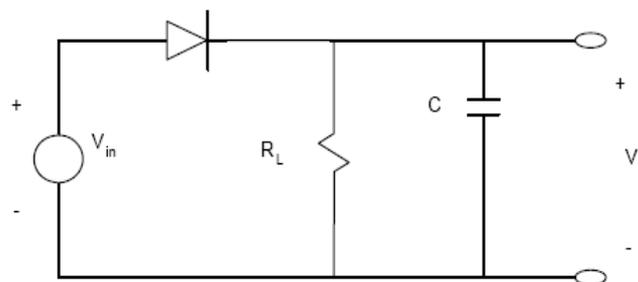
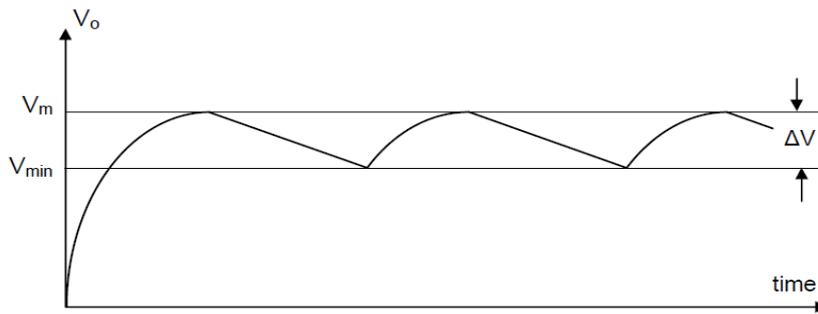

Figure 3: Rectifier circuit with an RC smoothing filter.
Figure 4: Output wave shape from a full-wave filtered rectifier.
The rectifier circuits discussed above provide a pulsating dc voltage at the output. These pulsations are known as "ripple". The uses for this kind of output are limited to charging batteries, running dc motors, and a few other applications where a constant dc voltage is not necessary. For most electronic circuits, however, a constant dc voltage similar to that from a battery is required. To convert a half-wave or full-wave rectified voltage with ripple into a more constant dc voltage, a smoothing filter must be used at the rectifier's output. A popular smoothing filter is the capacitor-resistor filter, which consists of a single capacitor in parallel with the load resistor. Figure 3 shows such a filter connected to the output of a half-wave rectifier. The output wave shape of the filtered half-wave rectifier is similar to that shown in Figure 4, assuming that the time constant of the $R_L C$ filter is comparable to the period of the input voltage.
Notice that the output wave shape still has ripple, but the ripple is now saw-tooth or triangular shaped, and its variation is much less than that of the unfiltered pulses. The difference between the maximum and minimum of the filtered voltage is known as the **Ripple Voltage (V_r)**. In Figure 4, this voltage is labeled ΔV .
For a half-wave rectifier, f_p is the frequency of the input voltage. For a full-wave rectifier, f_p is twice the frequency of the input voltage. The output of the filtered voltage for a full-wave rectifier is shown in Figure 4.
From Figure 4, we see that ΔV ($=V_r$) determines the amount of ripple in the output signal. From Equation (3), we see that for the ripple voltage V_r to be small, the $R_L C$ time constant must be large. In other words, the ripple can be reduced by increasing the discharging time constant $R_L C$. Hence, increasing either C or R_L will reduce the ripple voltage. It should be noted that the resistor R_L is usually inside a commercial power supply and any external load connected to the power supply is in parallel with R_L and acts both to lower the total load resistance and to increase the ripple. This is why an audible hum is often heard from power supplies when the external load resistance drops to a very low value.
$V_r(rms)$ is the RMS value of the ripple voltage. The value of $V_r(rms)$ can be calculated for various input wave shapes. For a complicated wave shape, such as that shown in Figure 4, the value of $V_r(rms)$ is calculated as if the filtered, rectified wave were a triangular wave, for which
The average (dc) voltage will lie between V_m and V_{min} . Therefore, for the filtered, triangular wave shape shown in Figure 4, a better value of V_{dc} would be given by